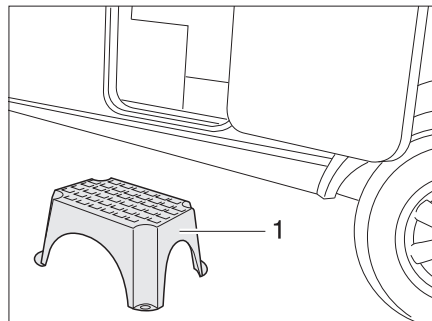

Fig. 18 Entrance step (free-standing)
- Place the entrance step (Fig. 18,1) in front of the entrance to the caravan.